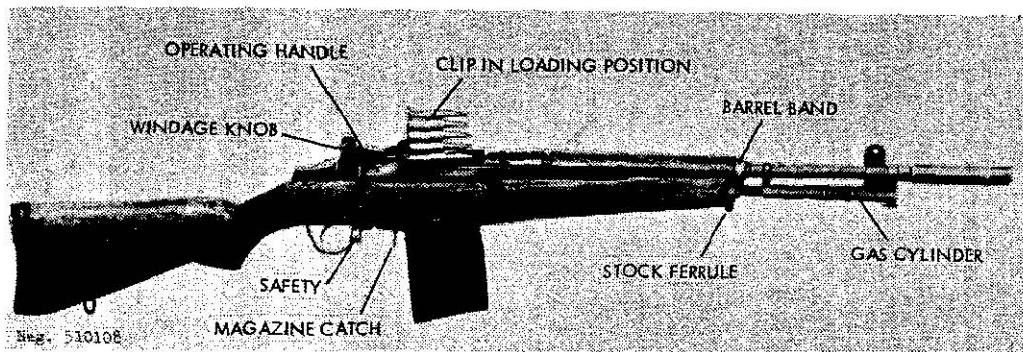
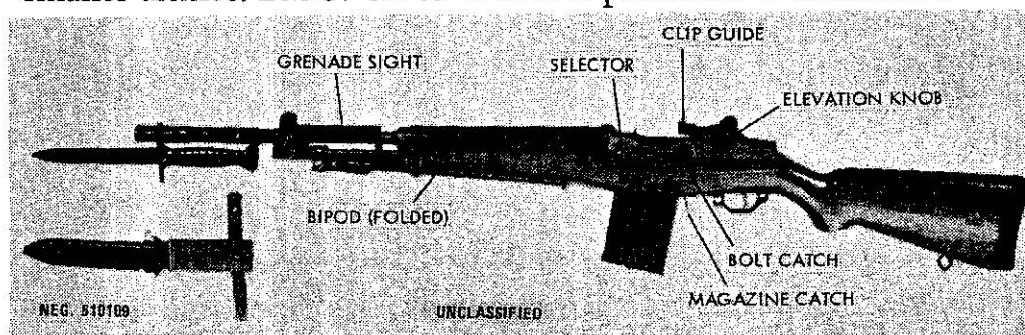
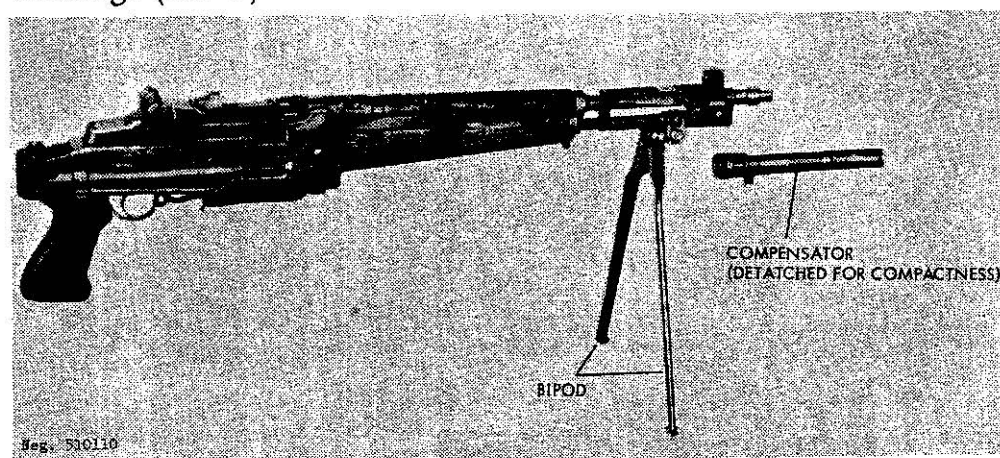

Figure 109. Italian BM 59 Mark 1 rifle.
Figure 110. BM 59 Mark Ital rifle.
Figure 111. BM 59 Mark Ital-A paratrooper's rifle.
- a. The Italian BM-59 rifle (fig 109) is based upon the design of the US caliber .30 M1 rifle and resembles the US
7.62-mm M14 rifle. The BM-59 is gas operated, selective fire, and is fed from 20-round detachable box magazines. There are several distinct models of the BM-59, differing primarily in stock design and muzzle devices. All are mechanically identical. The Italian Army uses the BM-59 Mark ITAL (fig 110) and the BM-59 Mark ITAL-A (fig 111) as standard weapons. The other versions are offered for sale and may be encountered in use in some of the smaller armies. BM-59 rifles were also produced in Indonesia.
a. Press the magazine catch (fig 109) toward the magazine and simultaneously rotate the bottom of the magazine forward until the magazine releases from the rifle and can be removed. Load the magazine as described in paragraph 128. Insert the magazine into the receiver and strike with the heel of the hand to insure the magazine is firmly caught in place.
b. If desired, leave the magazine in place, pull the operating handle (fig 109) fully rearward, and release; the bolt will be held open. Insert NATO five-round stripper clips into the clip guide (fig 110) and press the cartridges off the clip into the magazine. Individual rounds can also be placed on the follower and pressed down into the magazine. Adjust the sight for desired range (para 152g).
c. Pull the operating handle (fig 109) fully to the rear and release it. CAUTION: The rifle is now loaded and ready to fire. It is a good practice to tap the operating handle to insure that it is fully forward. If the rifle is not to be fired immediately, press the safety (fig 109) toward the trigger.
e. Set the selector (fig 110) for the type of fire desired: forward for automatic fire, rearward for semiautomatic fire. Push the safety (fig 109) forward. Aim (using a normal sight
f. Clear the BM-59 by first pressing the safety (fig 109) to the rear, then pressing the magazine catch (fig 109) and removing the magazine. Pull the operating handle (fig 109) rearward, press in the bolt catch (fig 110), and ease the operating handle forward until the bolt is held open. Inspect to insure that no cartridges are present. Pull the operating handle rearward and release it, then insert the magazine. Press the safety forward and press the trigger.
g. Adjust the rear sight for the desired range by twisting the elevation knob (fig 110), located to the left of the rear base, until the desired range (number x 100 meters) aligns with the index mark on the receiver. Windage is adjusted by rotating the right-hand knob (fig 109) in the appropriate direction as indicated by the arrow engraved on the knob. The elevation knob can be adjusted for zero by firing the rifle at a known distance target and adjusting the sights until satisfactory results are obtained. Without changing sight elevation, loosen the screw in the center of the elevation knob, turn the drum so that the appropriate range indicator is aligned with the receiver index line, and retighten the screw.
g. Engage the ferrule on the front of the stock with the barrel band (fig 110). Lower the stock onto the barrel and receiver. Insert the trigger group straight into the opening on the stock, insuring that the ribs on the trigger housing mate with their grooves in the receiver. Fully seat the trigger housing and press the
b. When the weapon is loaded and the trigger pressed, the hammer strikes the firing pin and fires the cartridge. The propellant gases drive the bullet down the barrel bore and, after the bullet passes the gas port, some of the propellant gases enter the gas cylinder (fig 109) and drive the operating rod rearward. The driving spring is compressed, the hammer rocked rearward, and, after a short distance, the cam in the operating rod hump contacts the bolt operating lug. Continued operating rod travel causes the bolt to rotate to its unlocked position and then move rearward. The extractor pulls the fired cartridge case from the chamber (initial extraction occurred as the bolt unlocked by the left-hand locking lug contacting a cam surface) and holds it to the bolt until the fired case clears the chamber. The spring-loaded ejector expands and hurls the fired case out of the weapon. The operating rod finally strikes the front of the receiver and stops. The driving spring then forces the operating rod and bolt forward. As the bolt moves, its feed rib drives the top cartridge out of the magazine and into the chamber. The bolt stops when it strikes the barrel, but the operating rod continues forward. During this final forward movement, the cam in the operating rod rotates the bolt to its locked position; as this occurs, the extractor snaps into the groove of the cartridge case and the ejector spring is compressed. Forward motion ceases when the end of the cam groove in the operating rod strikes the operating lug of the bolt.
a. The BM-59 can be used to launch 22-mm inside diameter tubed grenades. The compensator (fig 111) serves as a grenade launcher, as a muzzle brake and as a compensator. BM-59's used to fire grenades are equipped with a folding grenade sight (fig 110). Prior to firing a grenade, erect the sight; this will automatically cut off the gas mechanism. Load the rifle with a grenade-launching cartridge. (CAUTION: Never use a cartridge with a bullet! Use only special launching cartridges without bullets. Use of bullet rounds to launch grenades will kill the shooter!) Place the weapon on safe and slide a grenade over the launcher. The grenade must slide onto the launcher easily, without